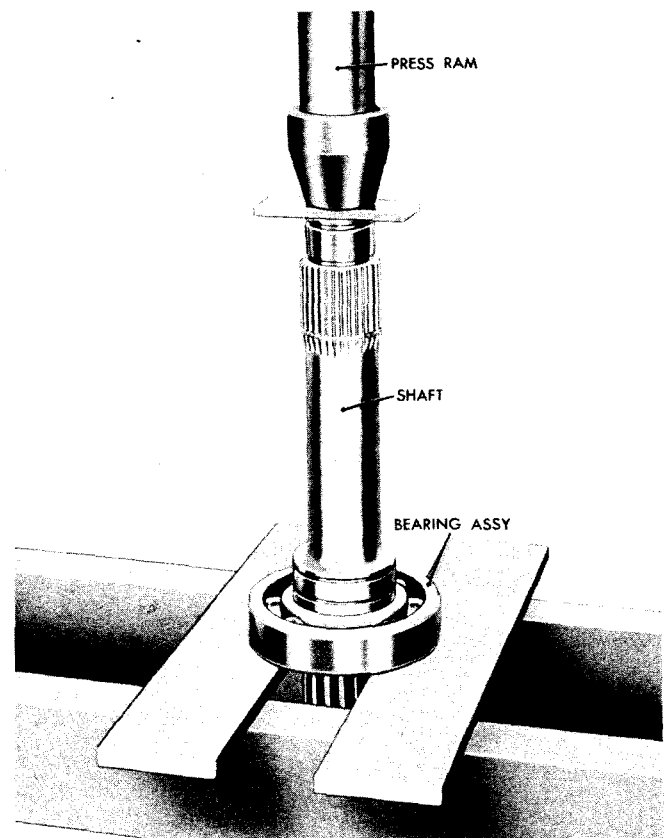

Fig VI-39. Pressing output shaft into bearing
(1) Press the ball bearing on the shaft, using an arbor press. Be certain to press only on the bearing inner race (fig. VI-39).